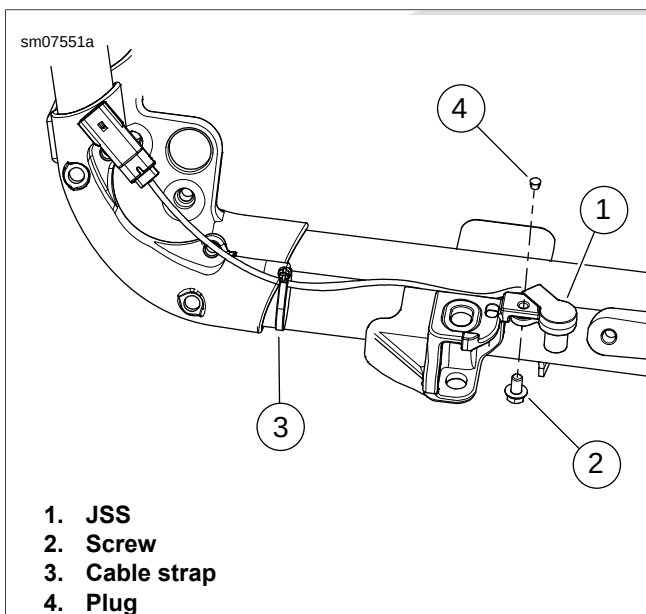

Figure 6-123. JSS Harness Routing
2. See Figure 6-123. With JSS (1) aligned with mounting tab on jiffy stand bracket, tighten screw (2) to 96-120 in-lbs (10.9-13.6 Nm).